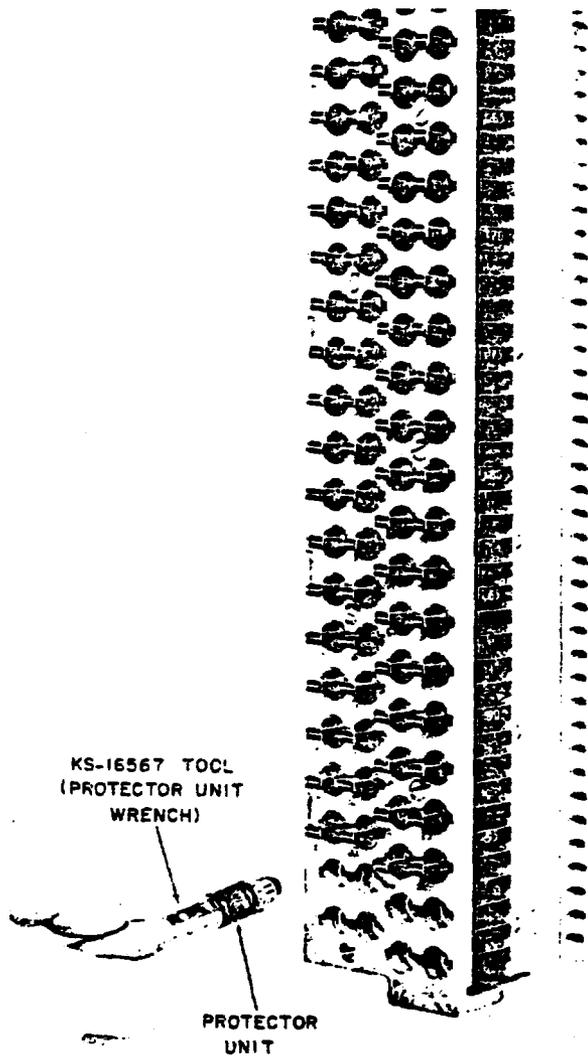

Fig. 5—Removing Protector Unit From 300-Type Connector With KS-15567 Tool
- (1) If the unit is in the working position (mark shown horizontal), turn the unit 45 degrees counterclockwise and remove it. The KS-16567 protector unit wrench may be used for this operation (Fig. 5).
- (2) If the unit is in the open position (mark shown vertical), turn the unit 45 degrees clockwise and remove it.
(d) If the test center requests that the protector unit be inspected, wear insulating gloves and remove the protector unit from the frame with the KS-16567 tool (Fig. 5).